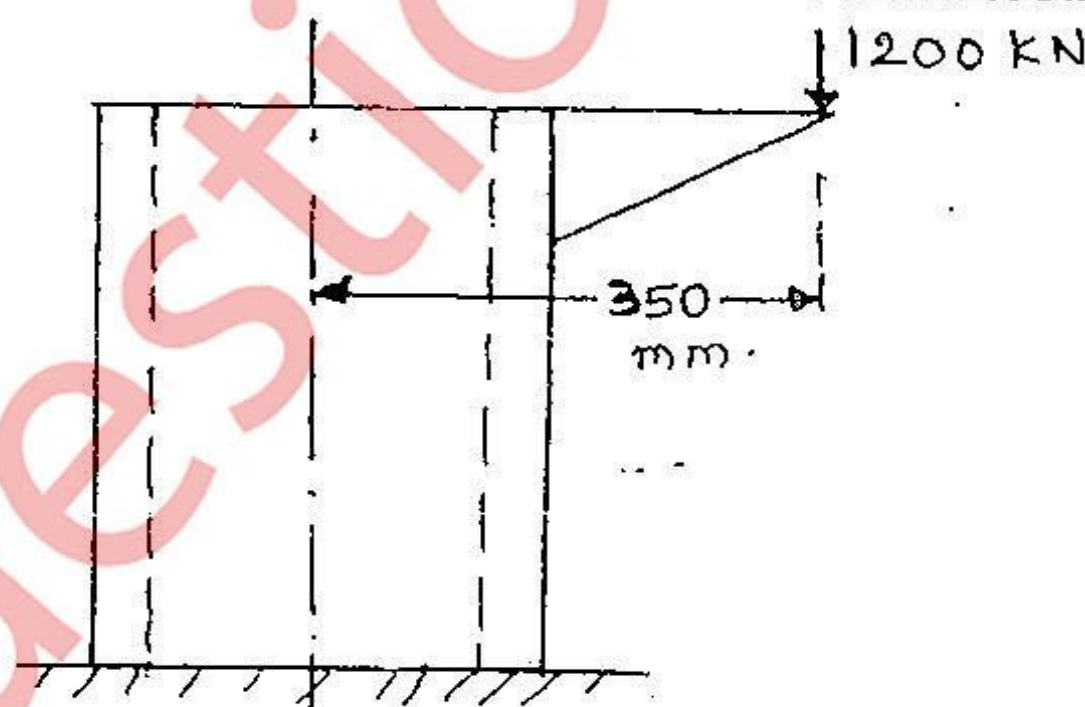

FIG. 9
Q. 4. a) A short CI column of hollow circular section has a projecting bracket (fig.9). It carries a load of 1200 kN. The load line is off the column axis by 350 mm. The external diameter of column is 320 mm & the metal thickness is 25 mm. Find the maximum & minimum stresses in the section. (08 M)